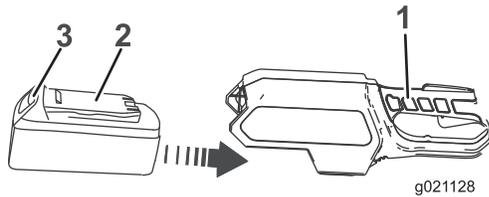

Figure 4
1. Align the tongue of the battery pack with the cavity in the handle housing (Figure 4).
2. Grasp the trigger handle (Figure 4).